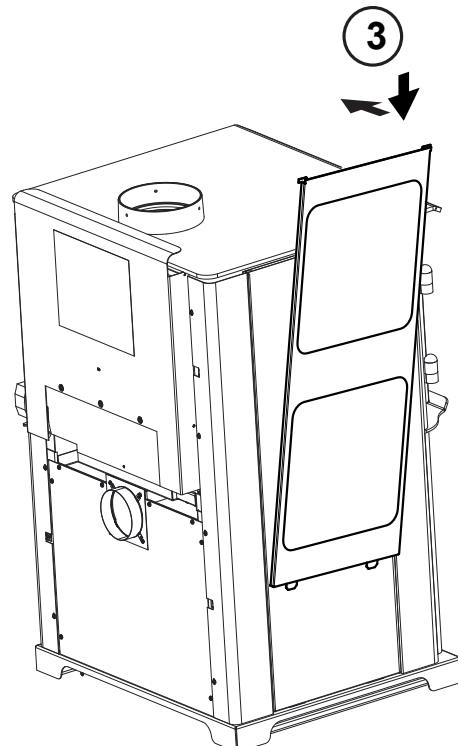

Figure 16.6
3. Reattach tile frame **Figure 16.6**.